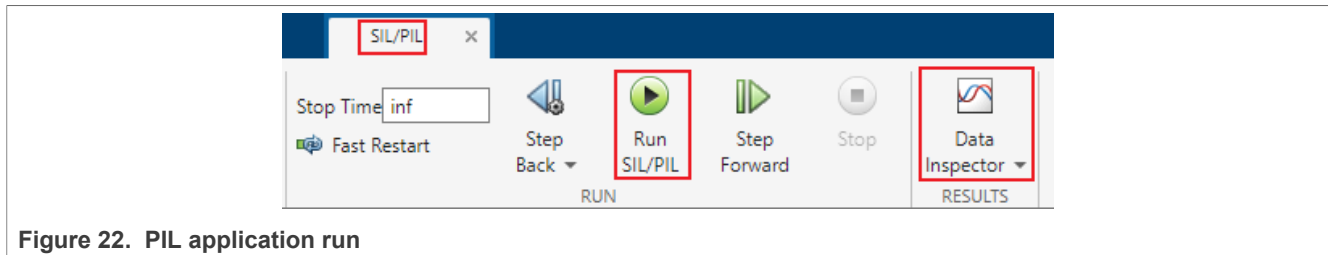

Figure 22. PIL application run
1. When the logged signal STATEEVENT-model(2) reaches 6, which means the state machine event “MBD_e_ready” occurs, press and hold the SW5 button for a while until STATEEVENT-model(2) becomes 7.
2. Then wait a moment for the state machine to complete the initialization process, and the signal STATEEVENT-model(2) will eventually become 12.
3. Press and hold the SW8 until the logged signal SPEEDLOOP-model(1) steps from 0 to 41.9. It give an input speed demand of 41.9 rad/s.
4. Wait for the feedback speed to track the demand speed. Click “Stop” in Figure22 to end this simulation process or directly set a “Stop Time” in Figure22.